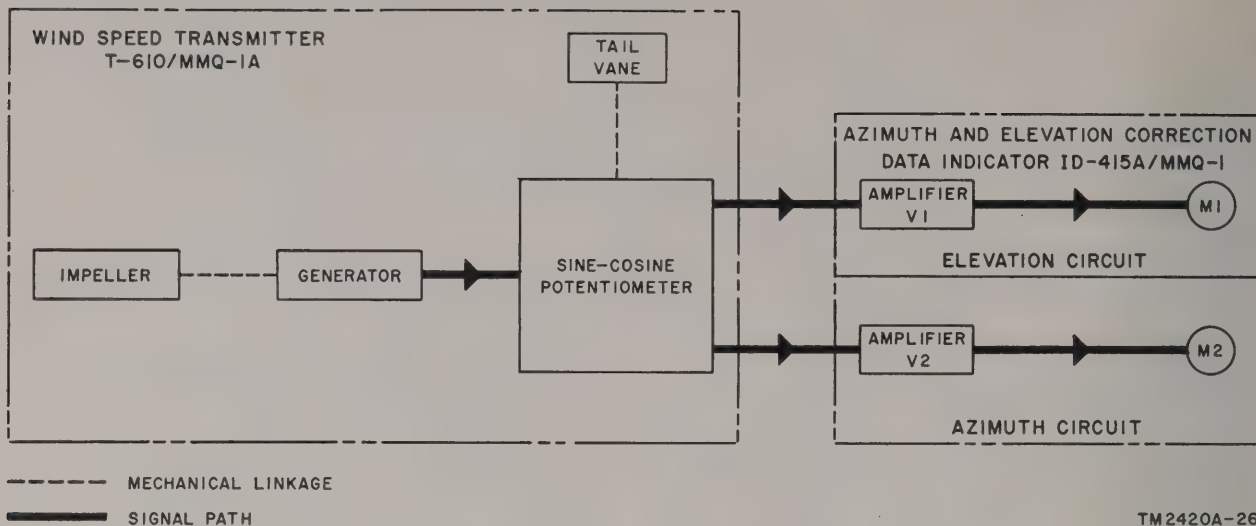

Figure 23. Transmission circuit, block diagram.
54. Transmission Circuit, Block Diagram Analysis (fig. 23)